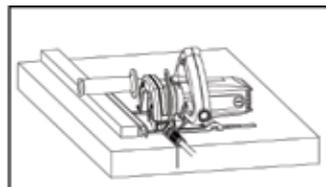

Figure-22
2. When using a straight edge as a guide, install the ruler so that it is above the base plate (Figure-22). Measure the distance from the straight edge to the intended cut and use it to set the ruler at the proper distance. When cutting, simply keep the ruler in contact with the straight edge while maintaining even cutting pressure and the cuts will be straight.